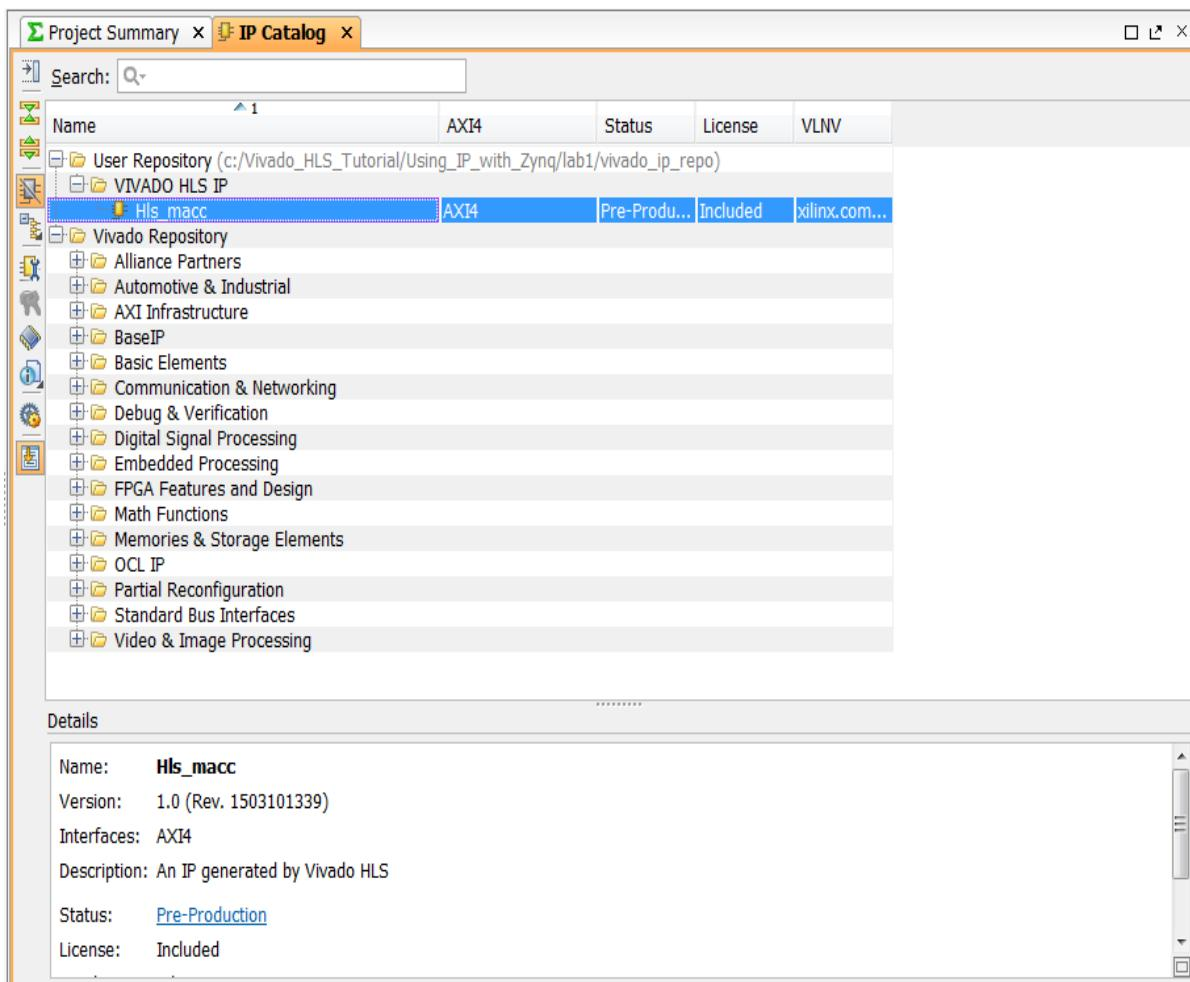

Figure 10-12: HLS IP in the IP Catalog
8. There is now an HLS IP in the IP Catalog, `Hls_macc` (Figure 10-12).